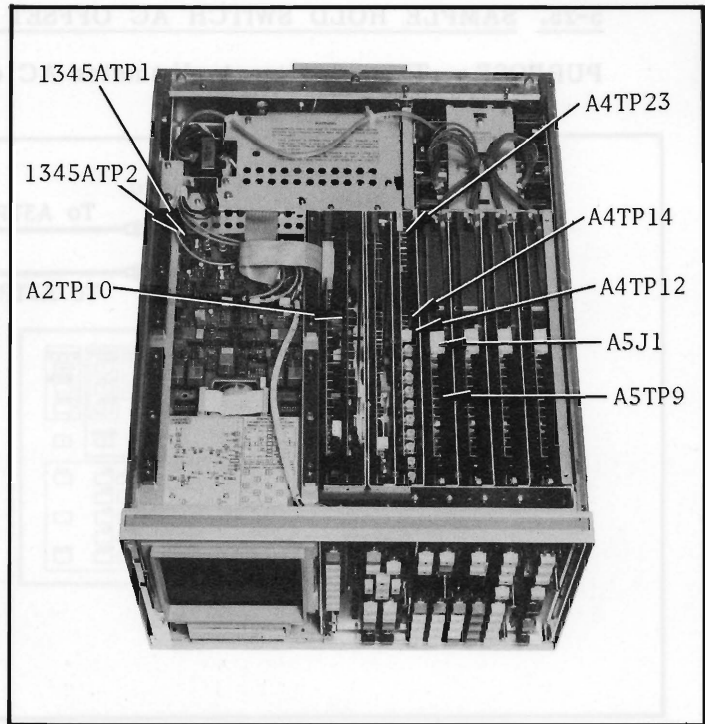

Figure 5-7. Check Point Locations.
1. Connect the DVM HI input to A2TP10 (+5V) (see Figure 5-7 for the location), and the LOW input to the chassis using an alligator clip-to-dual banana plug test lead.
- Connect the DVM to the points listed in Table 5-3, and verify that the DVM readout at each point is within the limits given in the table. Refer to Figure 5-7 for the locations of the points listed in Table 5-3.